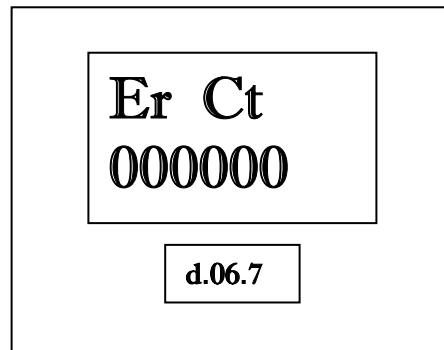

Figure 48
6.7 - ErCt. The display in Figure 48 appears. The PPV display shows the dispenser is in Diagnostics Level 6.7.